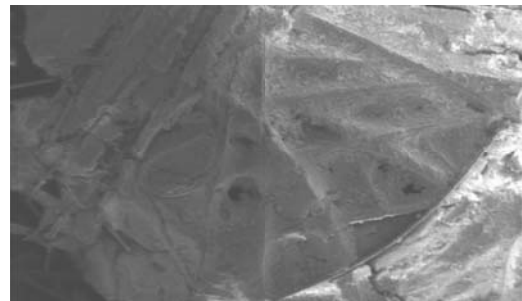

Figure 1 - Brand A
- Figures 1–4 depict four different glass-mat sheathing facers magnified at 50 times with a Scanning Electron Microscope/Energy Dispersive X-ray (SEM/EDX). Each board facer contains fiber-like structures with a chemical matrix.
- Figures 1–3 show a chemical binder connecting these fiber structures creating a compact, closed matrix. These surfaces have different profiles; however, the fibers appear to be fully incorporated into the chemical binder.